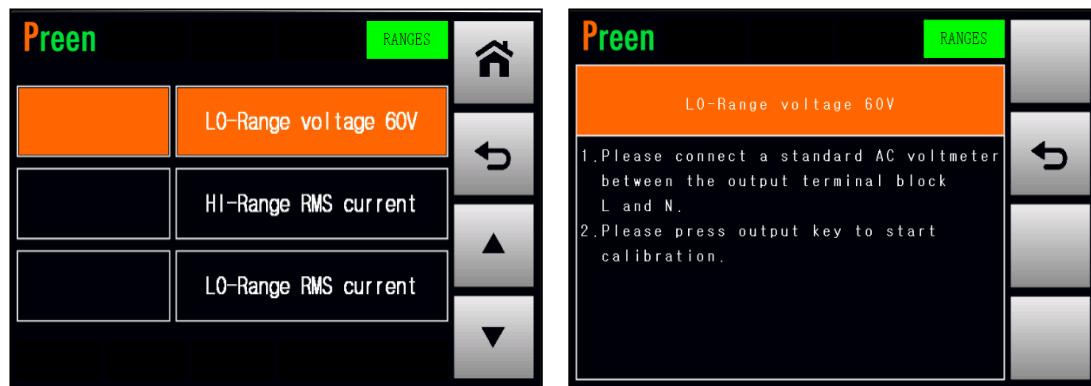

Figure 4.11 Enter into the page which calibrates the LO-Range voltage 60V
1. Press the item **LO-Range voltage 60V** repeatedly to enter into the page which calibrates the LO-Range voltage 60V (refer to Figure 4.11).